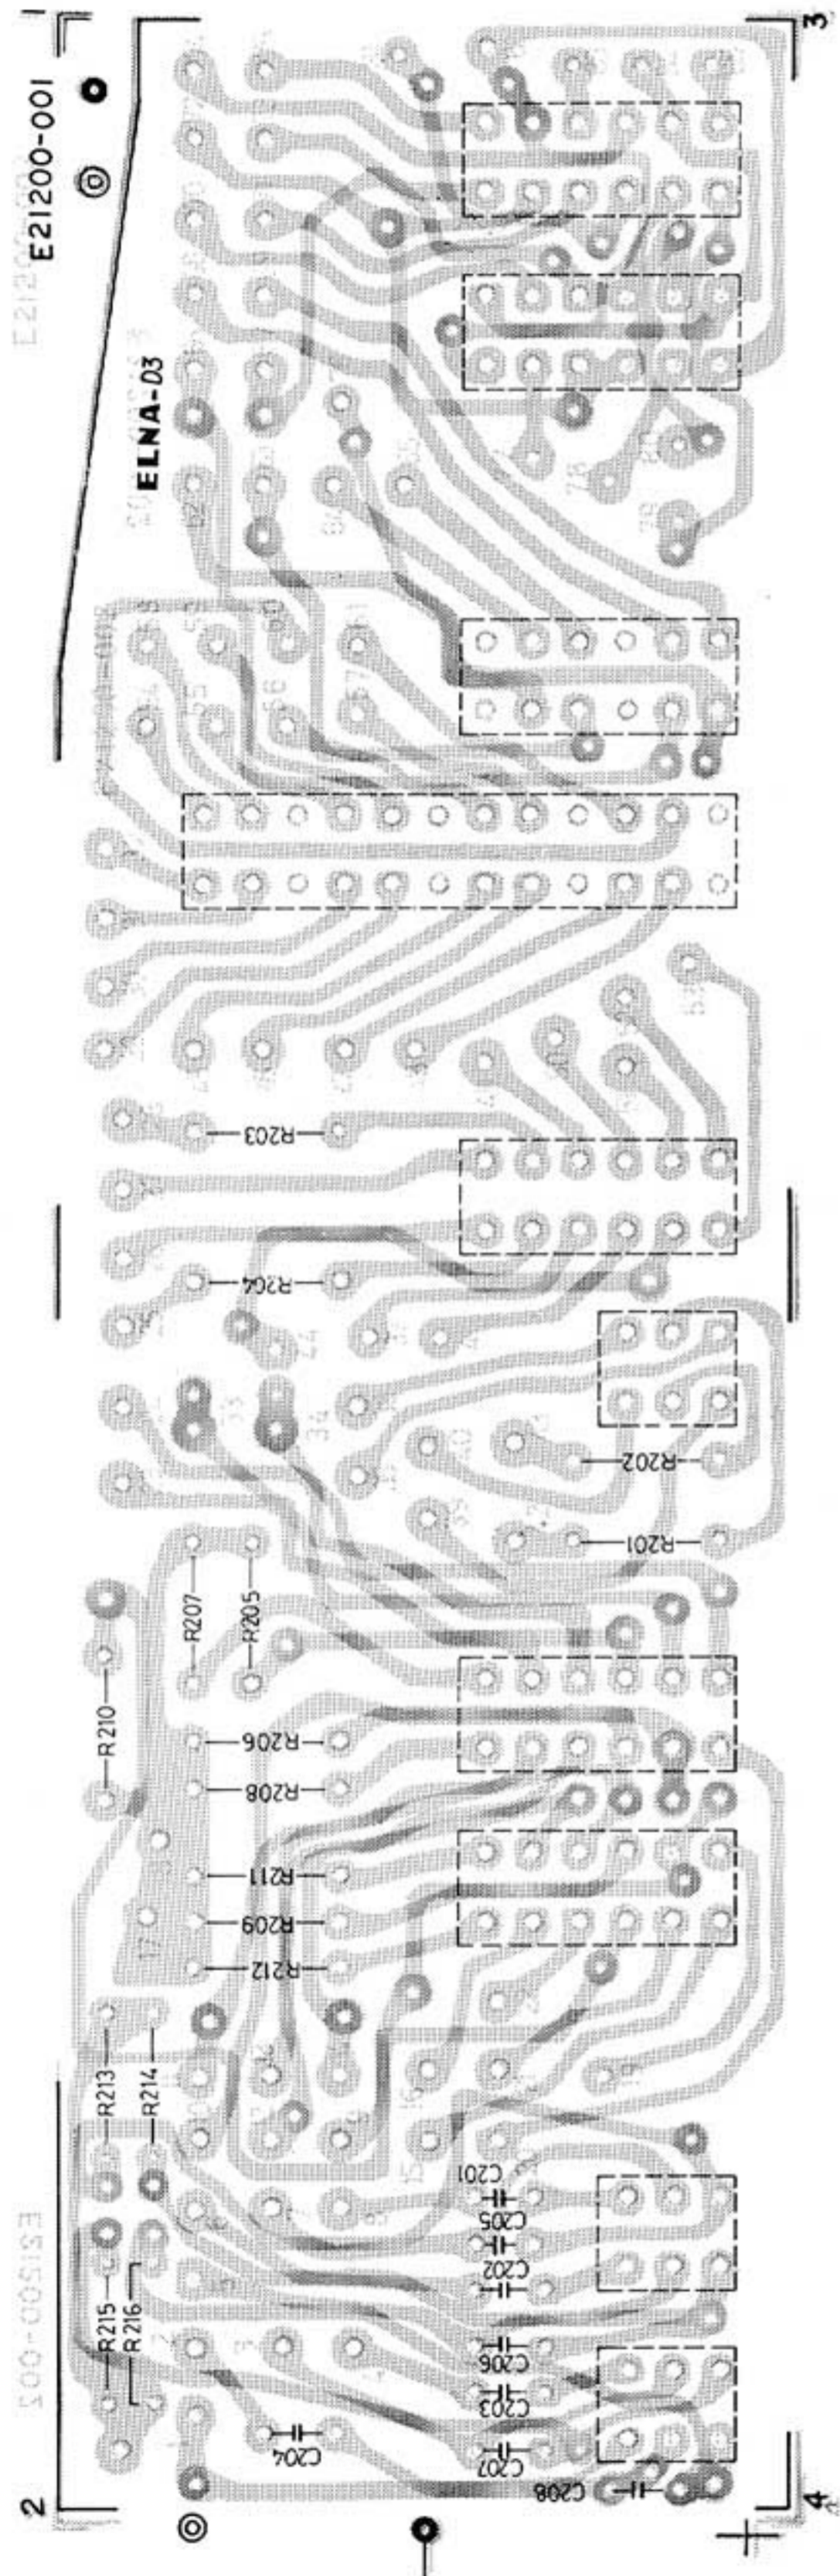

Fig. 16
**WIRE CONNECTION** (Fig. 16, 17)